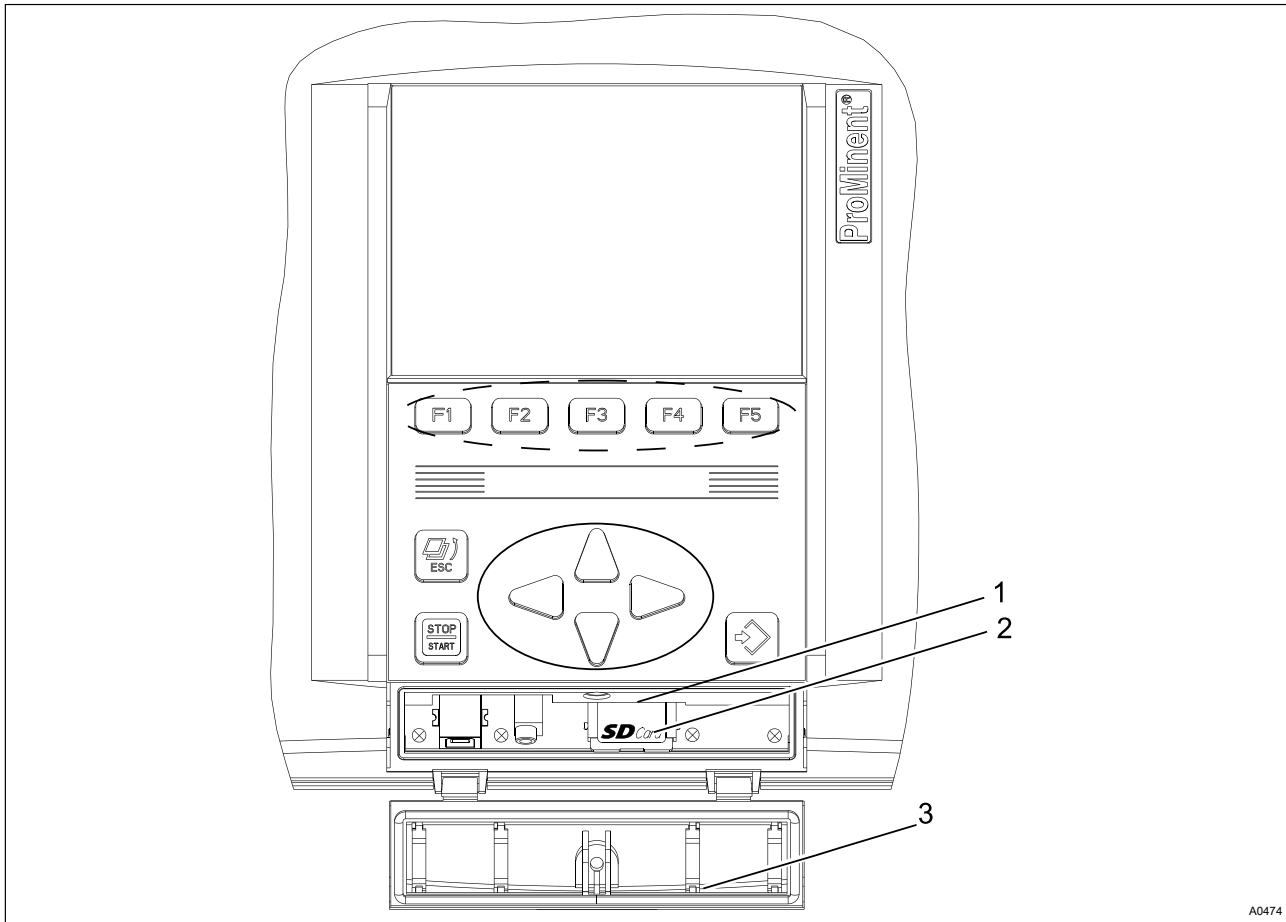

Fig. 5: The interfaces with the interface cover of the DXCa shown open
1. ➤ To insert the SD card, open the transparent interface cover (3) at the bottom of the DXC housing of the DULCOMARIN® II (shown Fig. 5 opened)
The transparent interface cover (3) in Fig. 5 must be screwed in place again so that it is moisture-proof. Otherwise the IP 65 rating is not achieved.
1. ➤ To remove the SD card open the transparent interface cover (3) at the bottom of the DXC housing of the DULCOMARIN® II (shown Fig. 5 opened)
2. ➤ Only pull out the SD card (2) from the card slot (1), if the identifier 'SD', at the top right on the LCD screen is highlighted in green. Not when it is highlighted in red! The plotter is then saving data. In this case wait briefly.
4. ➤ Push the SD card (2) into the card slot (1) until it engages